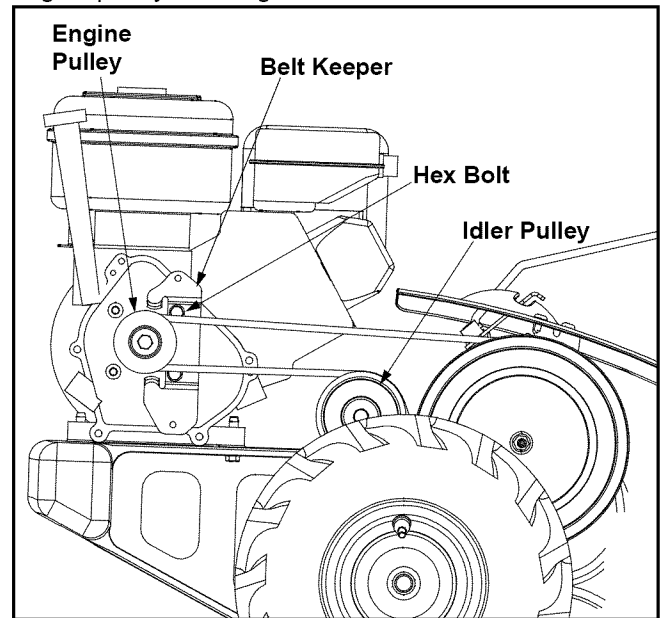

Figure 11
- Remove the belt keeper assembly located behind the engine pulley by removing two hex bolts and lock washers. See Figure 11.
NOTE: Upon reassembly, make certain the belt is routed over the idler pulley and inside of belt keepers by engine pulley. See Figure 11.